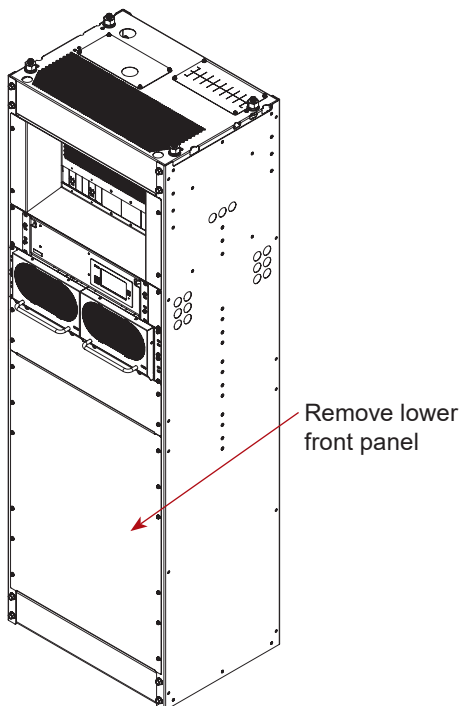

Figure 13 — Accessing Base Mounting Holes Lorain
3. Use a 5/16" nut driver to remove the lower front panel of the CXPS-FR3 to access the mounting holes in the base of the frame. See Figure 13.